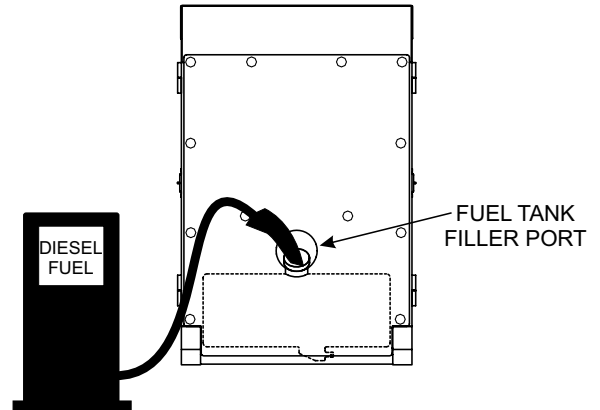

Figure 31. Fueling the Generator
2. Remove fuel cap and fill tank with **ultra low sulfur** No. 2 diesel fuel (Figure 31).